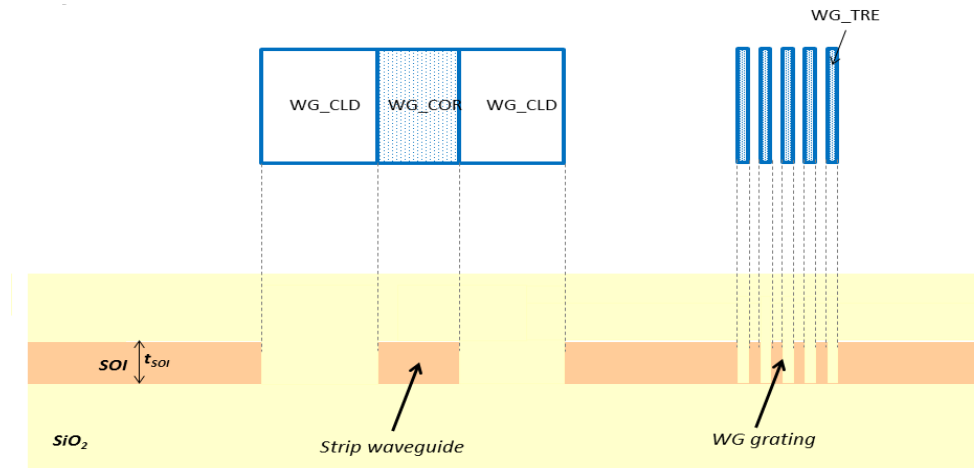
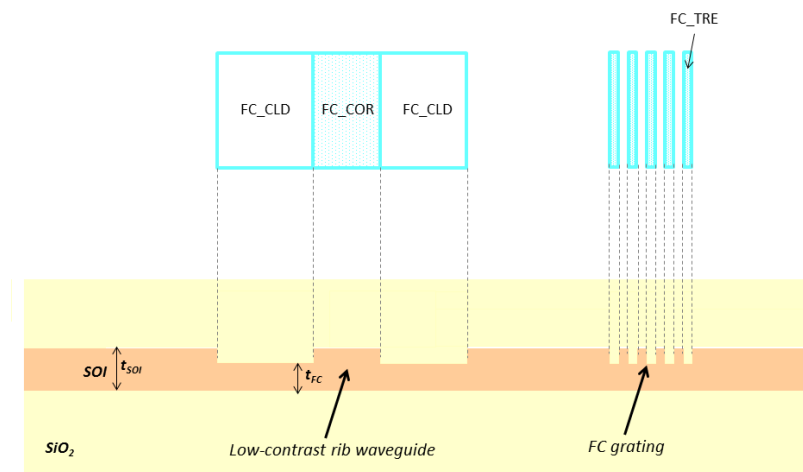
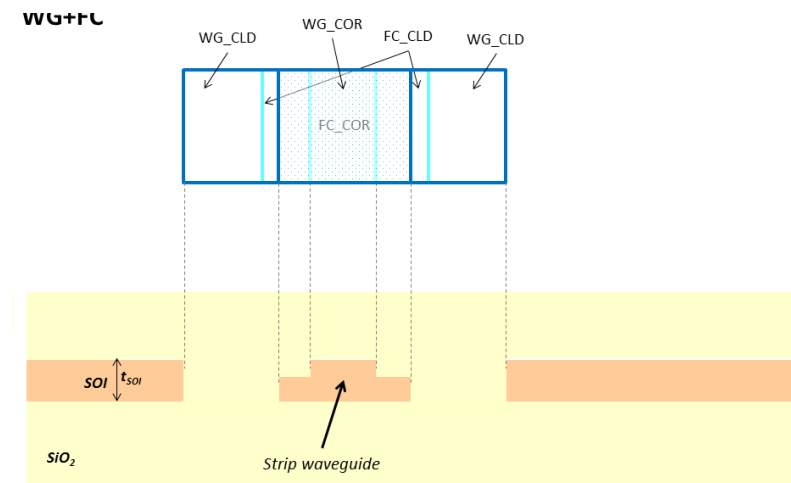
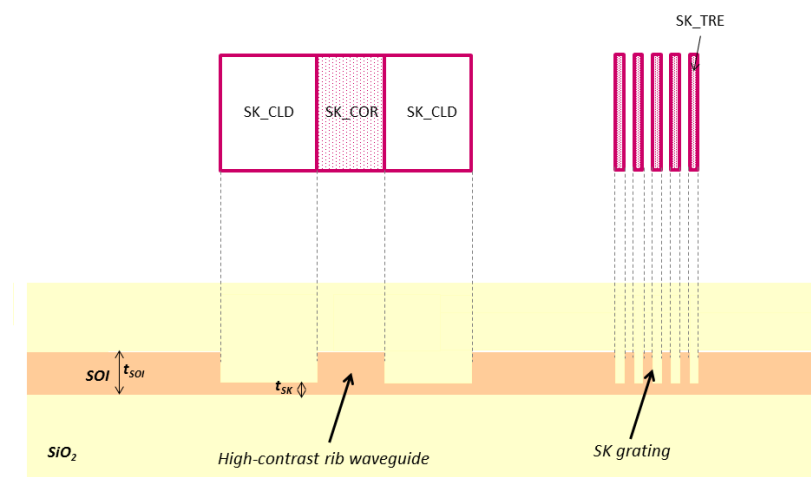

Figure 1: SOI patterning - WG cross-section and mask layers
Figure 2: SOI patterning, FC cross-section and mask layers.
Figure 3: SOI patterning: combination of WG and FC cross-section and mask layers.
Figure 4: SOI patterning, SKT cross-section and mask layers.
- SOI patterning (WG, FC, SKT): Figure 1, Figure 2, Figure 3 and Figure 4.
The same applies for FC\_ and SKT\_ layers on Figure 2 and Figure 4.